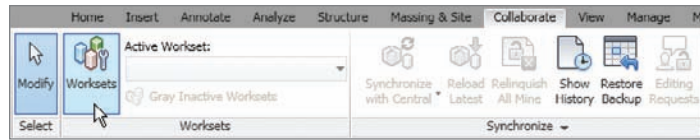

FIGURE 22.2 Once you pass this point, there is no turning back.
2. On the Collaborate tab, click the Worksets button on the Worksets panel, as shown in Figure 22.2.